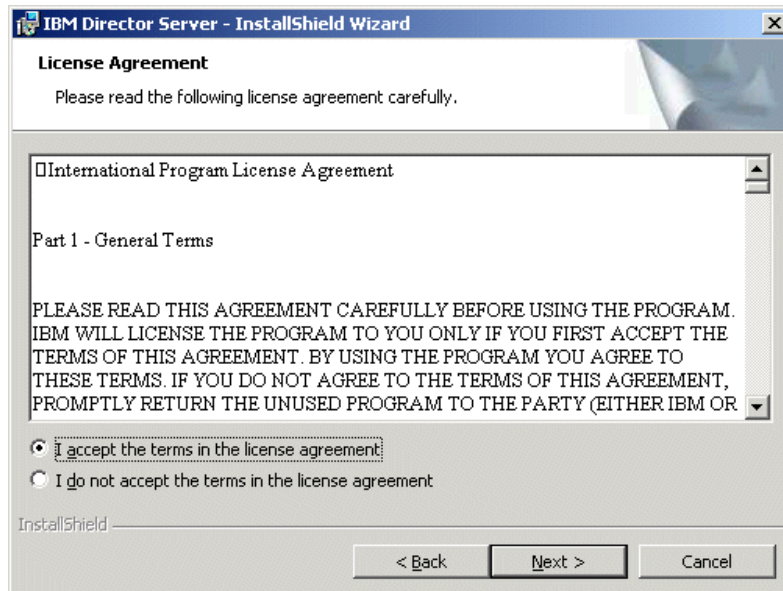

Figure 4-3 License Agreement window
4. From the Welcome window, click **Next** to execute the InstallShield Wizard for IBM Director Server. You will see a window similar to Figure 4-3.